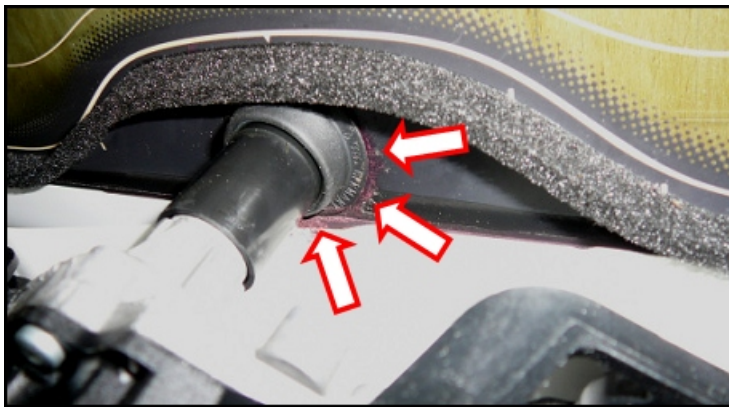

Figure 10: Seal for rear wiper shaft
- Replace the rear wiper shaft seal (Figure 10, red arrows) with part number 6Q6 955 758 A. See Repair Group 92 in Elsa.